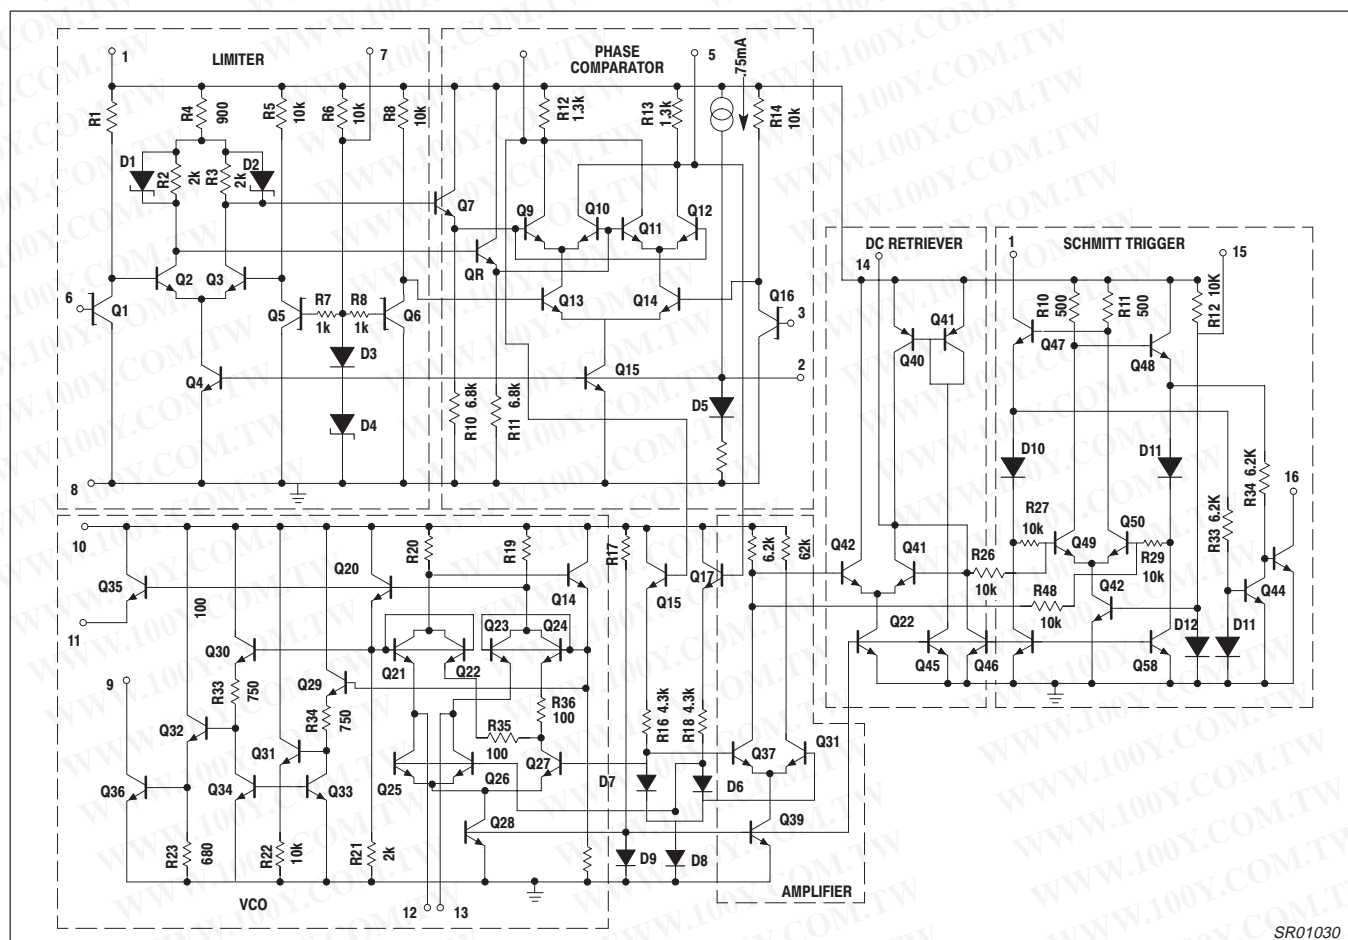

Figure 6. Equivalent Schematic
(Figure 6)
*Refer to Figure 6.